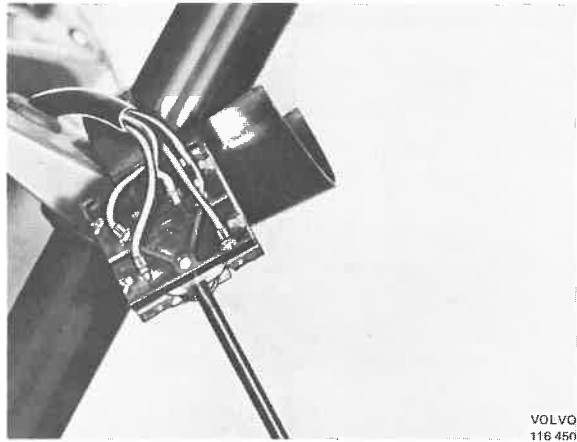

Fig. 36-7. Direction indicator lever with cables
4. Remove the lever with cables by pulling out the cables through the dashboard, see Fig. 36-7.